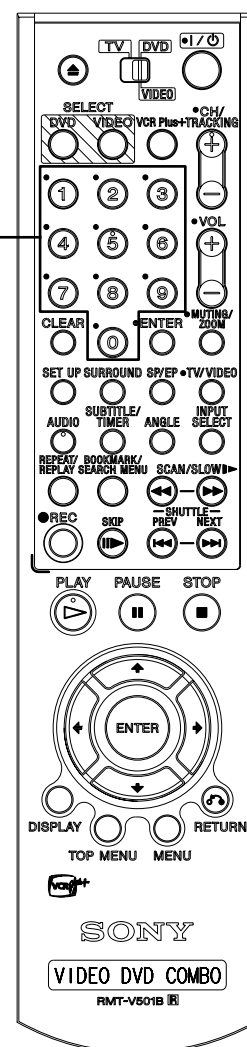

Fig. 6-1
- 3) Press the “1, 0” buttons ; remote control adjustment operates automatically. (See Fig. 6-1)
- 3) Press the “0, 5” remote control buttons, then adjustment is operates automatically. (See Fig. 6-1)